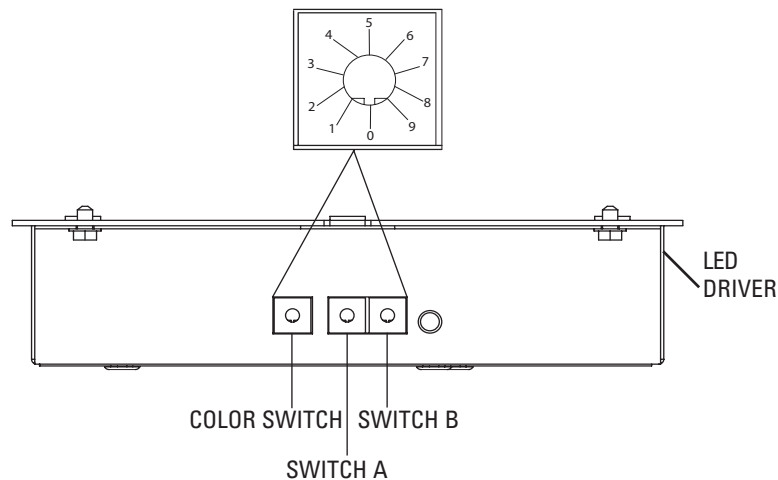

Figure 11
**LED DRIVER SELF-TEST MODE** (see Figure 11)